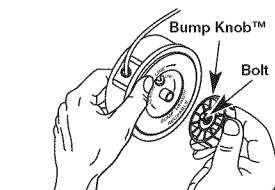

Fig. 9
1. Hold the outer spool with one hand and unscrew the Bump Knob™ counterclockwise (Fig. 9). Inspect the bolt inside the Bump Knob to make sure it moves freely. Replace the Bump Knob if damaged.
- Hold the outer spool with one hand and unscrew the bump knob counterclockwise (Fig. 9). Inspect the bolt inside the bump knob to make sure it moves freely. Replace the bump knob if damaged.